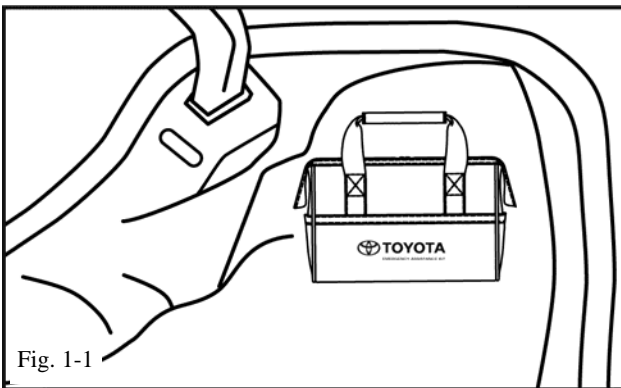

Fig. 1-1
- (1) Remove EAK from package.
- (2) Place the EAK in the trunk / cargo area of the vehicle. (Fig. 1-1)